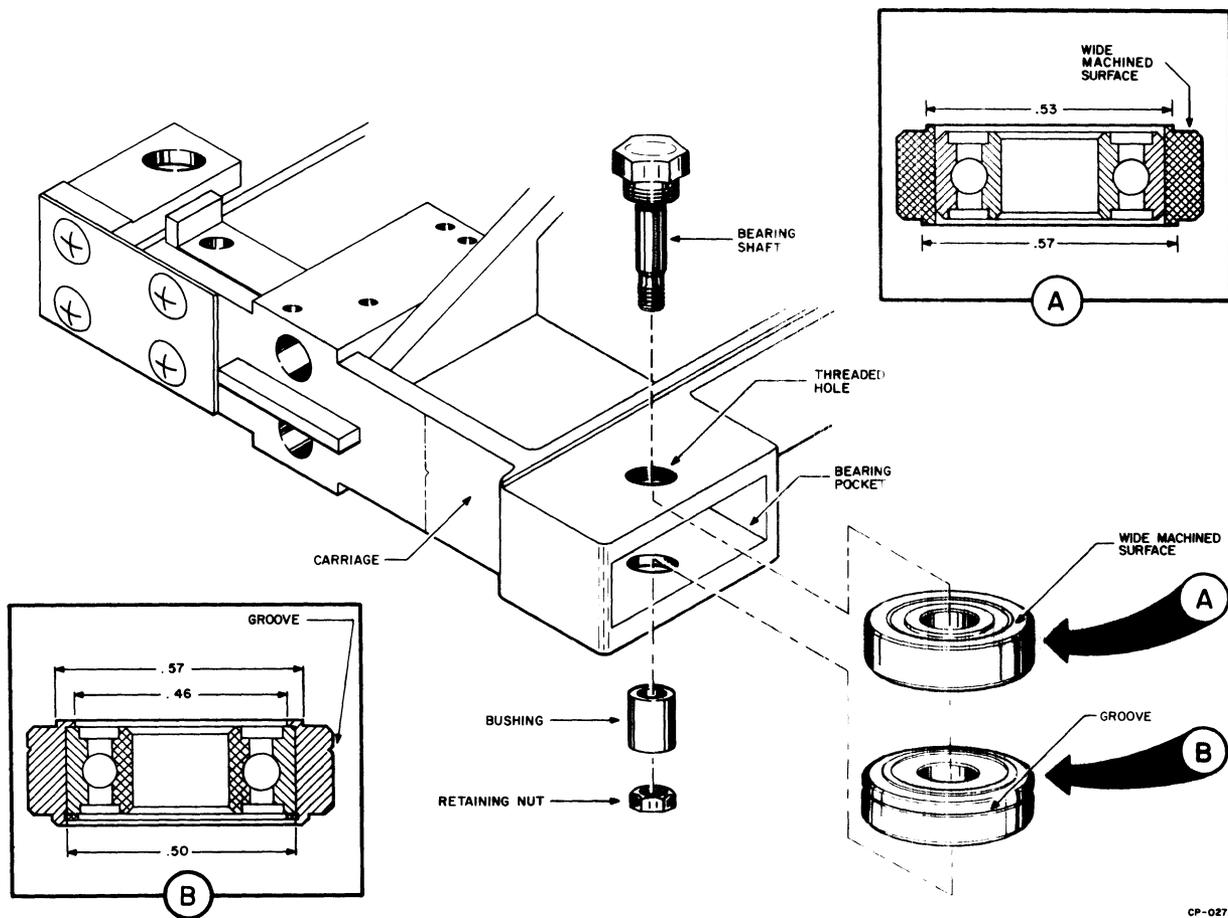

Figure 5-4 Carriage Bearing Assembly Removal
3. Using a 3/8-inch nut driver, loosen the bearing shaft nut (Figure 5-4) one-half turn.